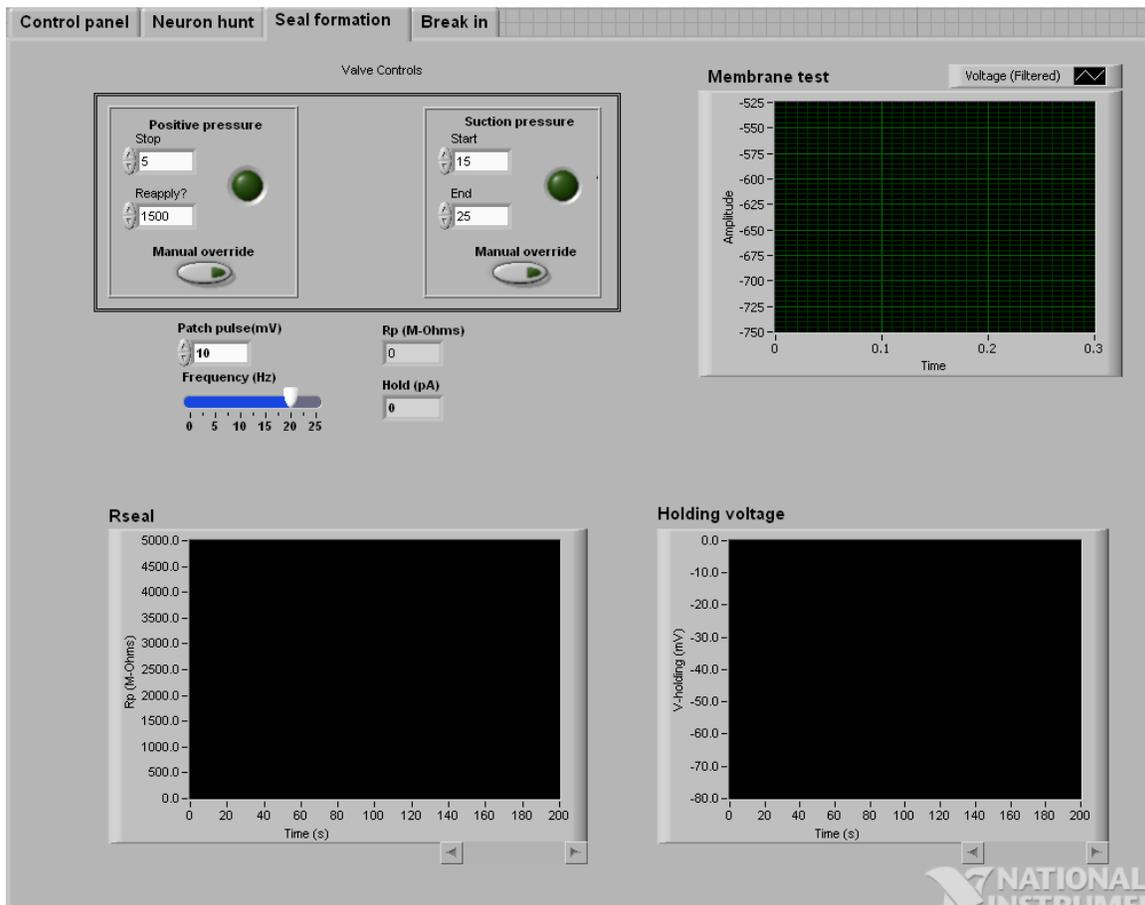

Figure 2.2.3: Computer screen capture of Seal formation tab in Autopatcher program
2.2.3. Seal Formation Tab Settings (Fig. 2.2.3)